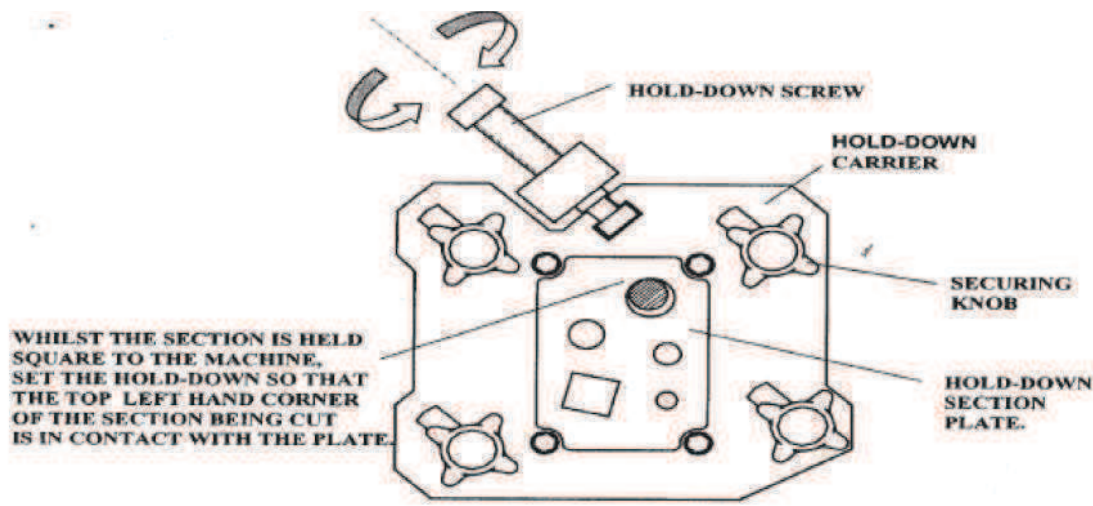

FIGURE 20
1. Check that the blades are correctly fitted and adjusted. (Refer to Figures 20 and 21.)
6. Ensure that the hold-down is correctly adjusted and secured. Ensure that the feed material is square to and held firmly against the hold-down. See Figure 20.